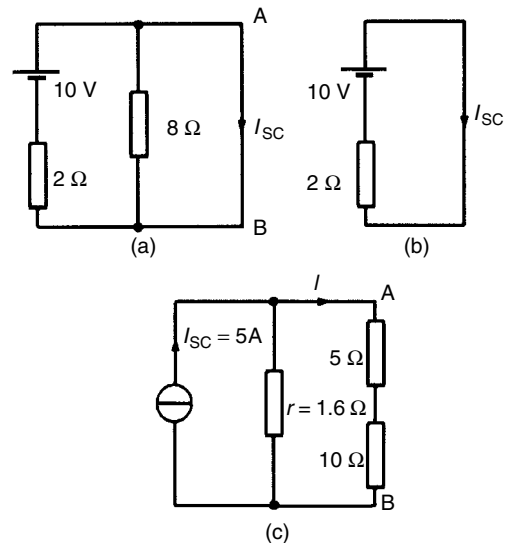

Figure 13.54
- (i) The branch containing the $10\ \Omega$ resistance is short-circuited as shown in Fig. 13.54(a)
- (ii) Fig. 13.54(b) is equivalent to Fig. 13.54(a).
- (iii) If the $10\ \text{V}$ source of e.m.f. is removed from Fig. 13.54(a) the resistance 'looking-in' at a break made between A and B is given by:
- (iv) From the Norton equivalent network shown in Fig. 13.54(c) the current in the $10\ \Omega$ resistance, by current division, is given by: